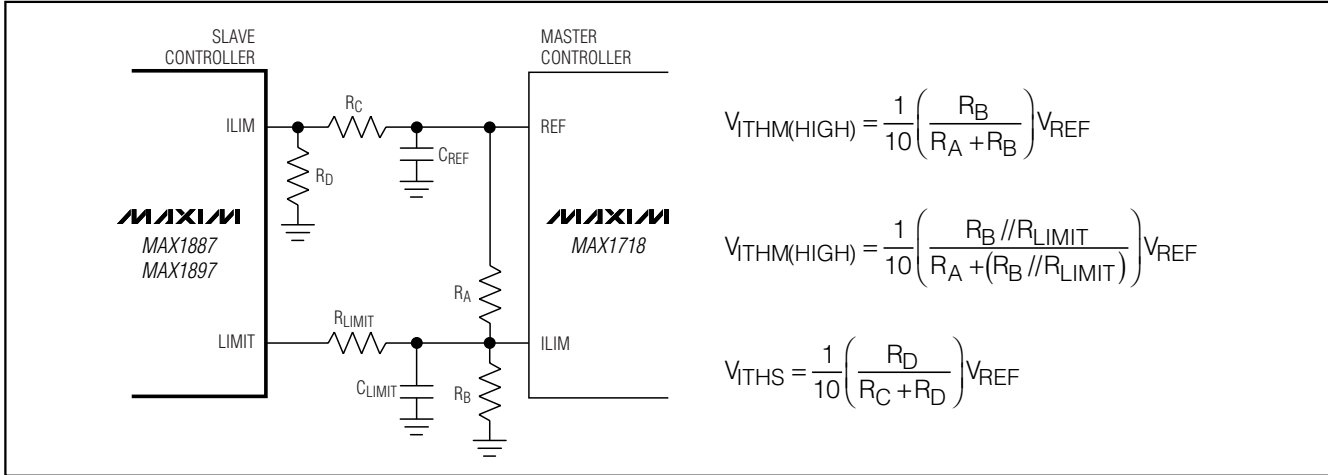

Figure 5. Setting the Adjustable Current Limits
where V_{ITHM} , the master's current-limit threshold, is typically 1/10th the voltage seen at the master's ILIM input ($V_{ITHM} = 0.1 \times V_{ILIM(MASTER)}$, see the master controller's data sheet). Connect a resistive voltage-divider from the master controller's internal reference to GND, with the master's ILIM input connected to the center tap (Figure 5). Use 1% tolerance resistors in the divider with 10µA to 20µA DC bias current to prevent significant errors due to the ILIM pin's input current:
where V_{ITHS} , the slave's current-limit threshold, is precisely one-tenth the voltage seen at the slave's ILIM input ($V_{ITHS} = 0.1 \times V_{ILIM(SLAVE)}$). Connect a second resistive voltage-divider from the master controller's internal reference to GND, with the slave's ILIM input connected to the center tap (Figure 5). The external adjustment range of 400mV to 1.5V corresponds to a
Now select the resistive-divider values (R_A and R_B in Figure 5) to set the appropriate voltage at the master's ILIM input:
Select the resistive-divider values (R_C and R_D in Figure 5) to set the appropriate voltage at the slave's ILIM input:
- 4) Determine R_{LIMIT} (Figure 5) from the above equation: